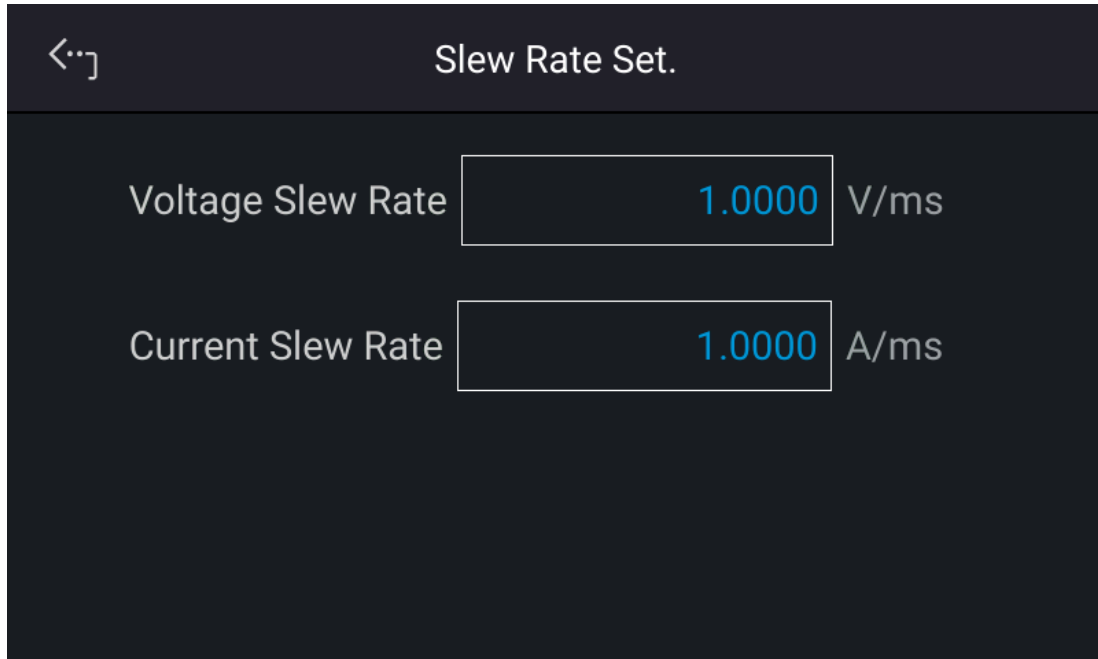

Figure 3-12
Tap “Slew Rate Set.” on the “Output Setup” page to show as Figure 3-12.
1. Select the I slew rate corresponding space as shown in Figure 3-12 to set the value.